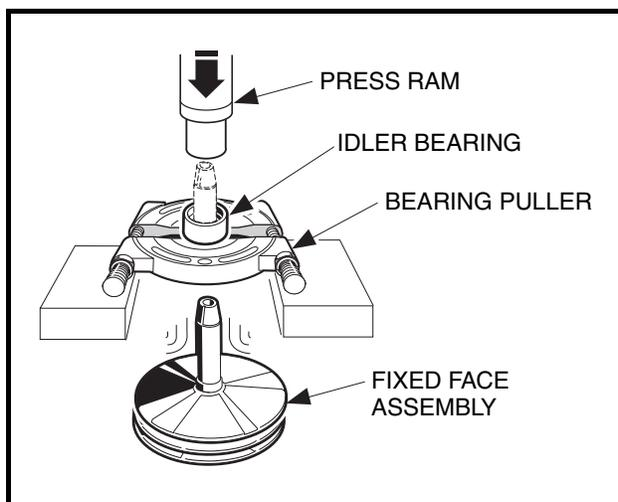

Figure 17-14 Remove Idler Bearing
- If necessary, remove idler bearing. Use a press to remove the bearing (**Figure 17-14, Page 17-9**). See following **NOTE**.